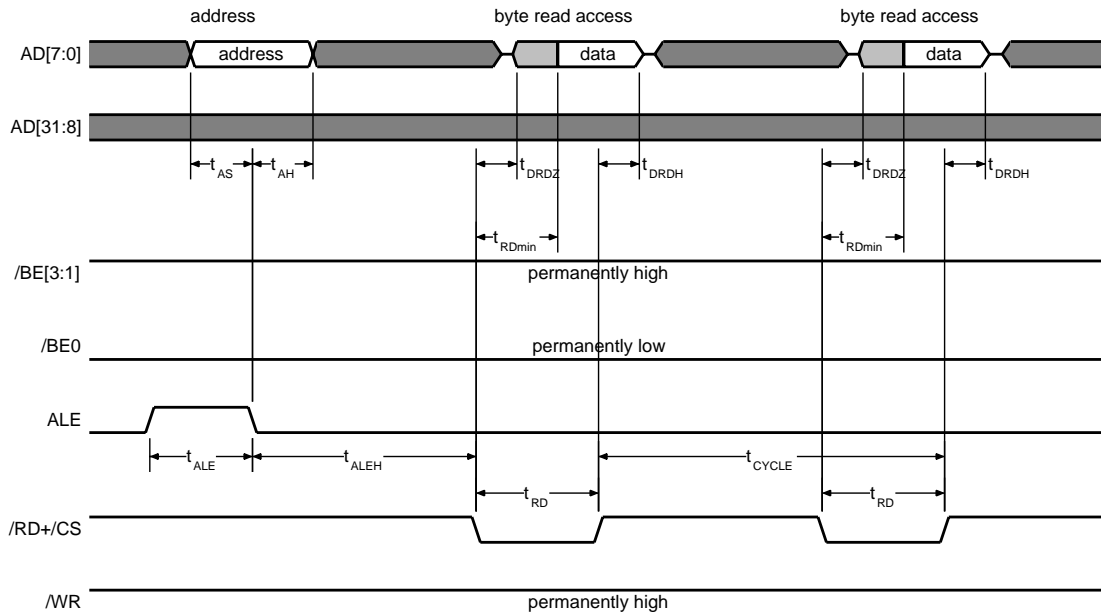

Figure 2.13: Read access from 8 bit processors in mode 4 (Intel, multiplexed)
8 bit processors read data like shown in Figure 2.13. Timing values are listed in Table 2.23. /BE3 ... /BE1 must always be '1'. /BE0 can be fixed to '0' or must be low during access to switch the data bus D7 ... D0 from tristate into data driven state.
An 8 bit read access (low byte) is performed in the same way as it is done with 8 bit processors. Thus see Figure 2.13 for the timing specification.
**Table 2.23:** Symbols of read accesses in Figures 2.13, 2.15 and 2.17